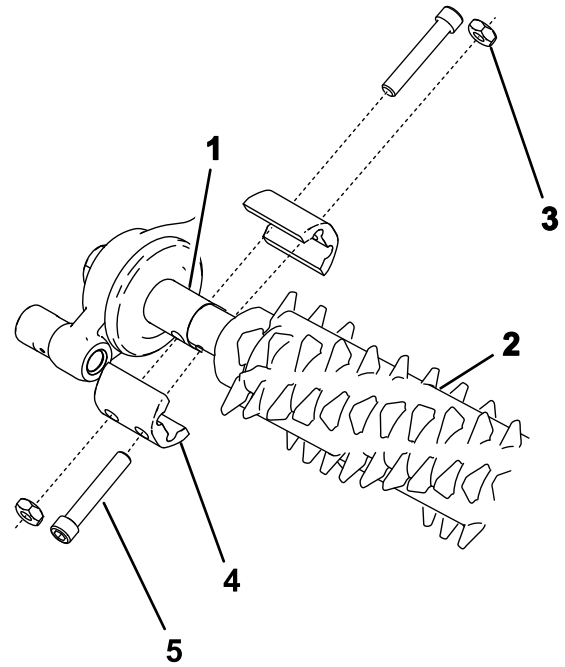

Figure 16
2. Line up the groomer assembly with the drive-stub shafts of the groomer drive box and idler assembly (Figure 16).
3. Secure the groomer to the machine as shown in Figure 16 and snug the bolts.